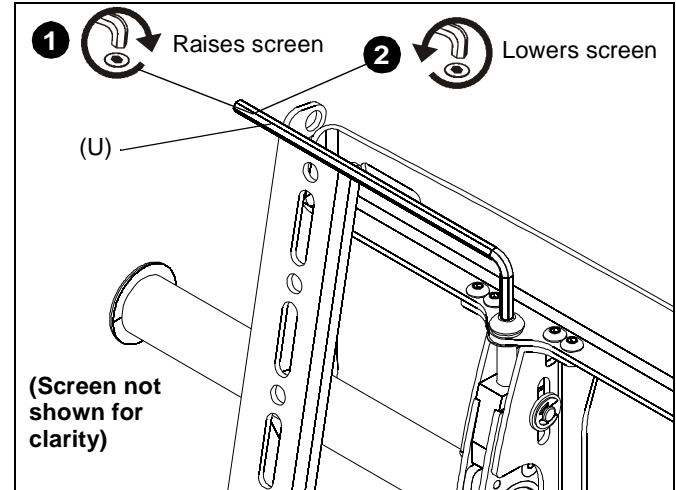

Figure 10
1. Turn to right (tighten) to raise side of screen. (See Figure 10)